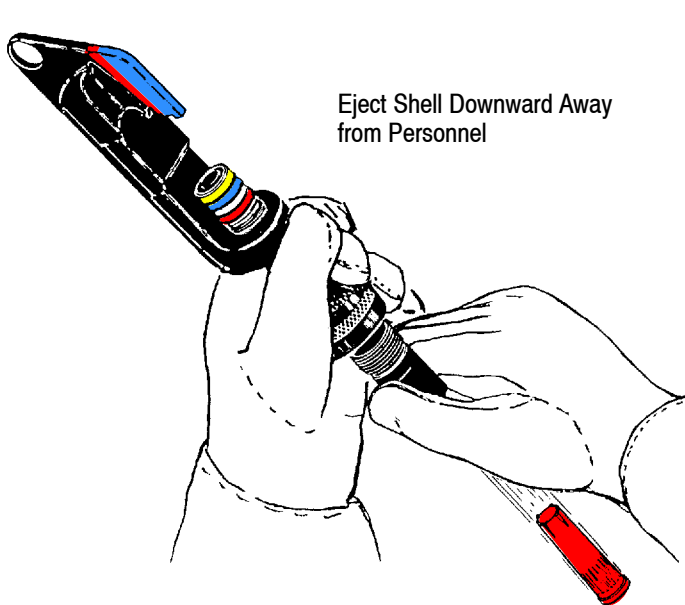

Figure 26
3. Direct breech cap end of tool away from personnel and towards the ground. Remove breech cap assembly and push ejector sleeve to eject spent shell as shown in Figure 26.